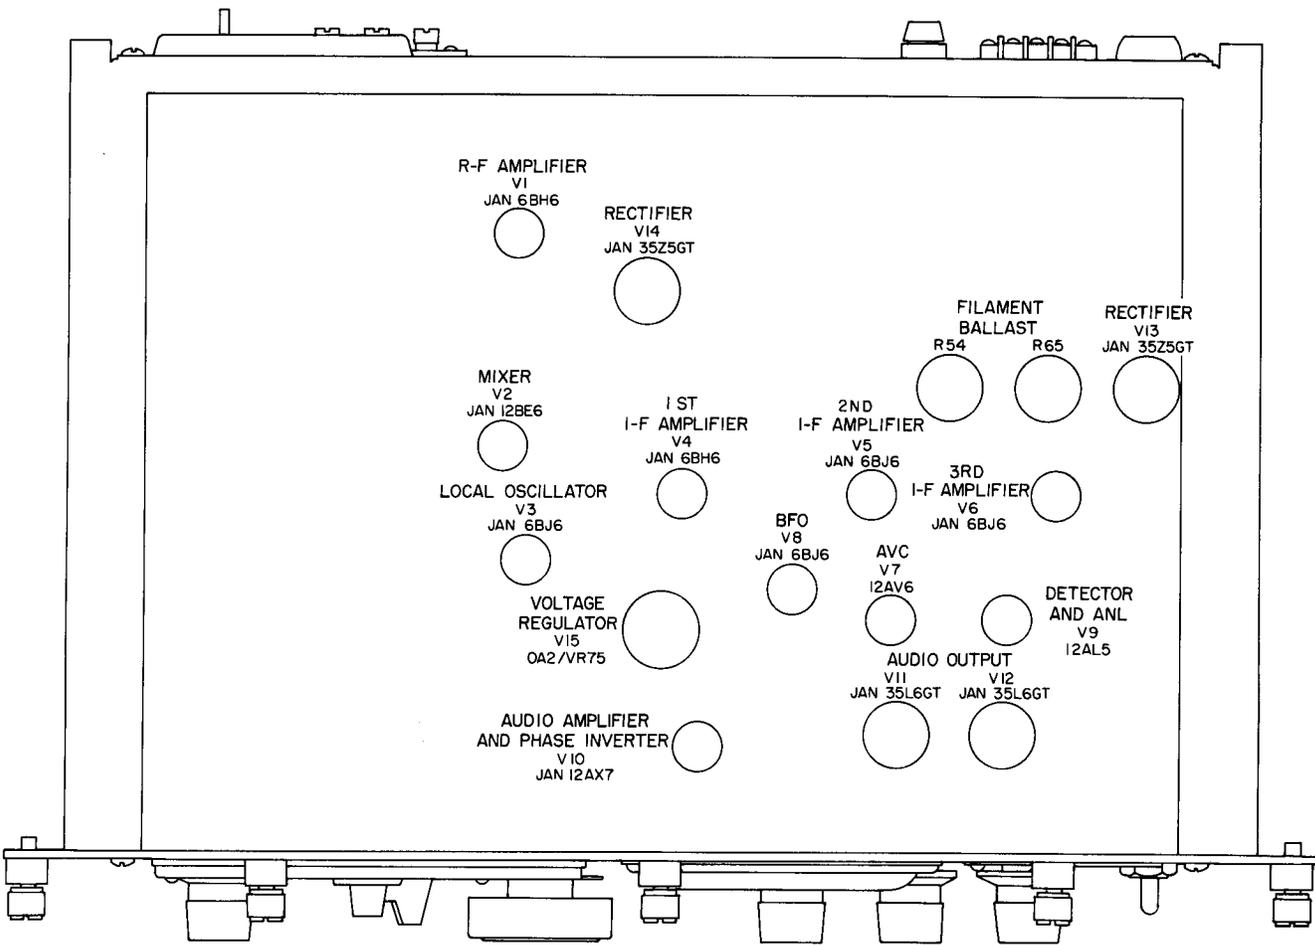

Figure 5-1. Radio Receiver R-649/UR, Tube Locations
(1) Turn the POWER switch to OFF before reaching in to touch a tube.
(2) Refer to figure 5-1 for tube locations. Each tube and the type is listed in table 5-1.
(3) When removing hot tubes, use a cloth or tube puller to prevent burning the fingers.
(4) The following tubes and ballasts are series-connected in individual series circuits: V9, V11, V12 and V13; V3, V7, V8, V10 and R54; V1, V2, V4, V5, V6, V14 and R65.